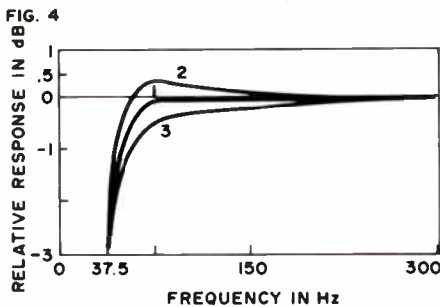

Fig. 4. Curve 1 is the target for $Q_T = .38$, $Q_L = 10$; curve 2 is for a Q_T which is 5.25% too large; curve 3 is for a Q_T which is 5.25% too small.
I recently built a vented system with $Q_T = .38$, $f_{SB} = 34$ and $Q_L = 9$. Figure 4 shows the on target response of this system (1), the response with Q_T 5 per-